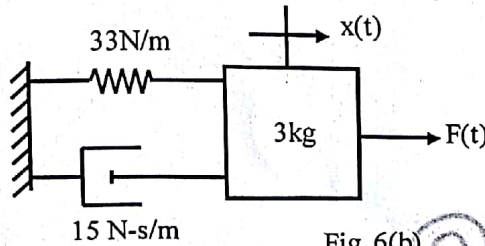

Fig. 6(b)
- b) Determine transient response specifications of mechanical system shown in fig. 6 (b)